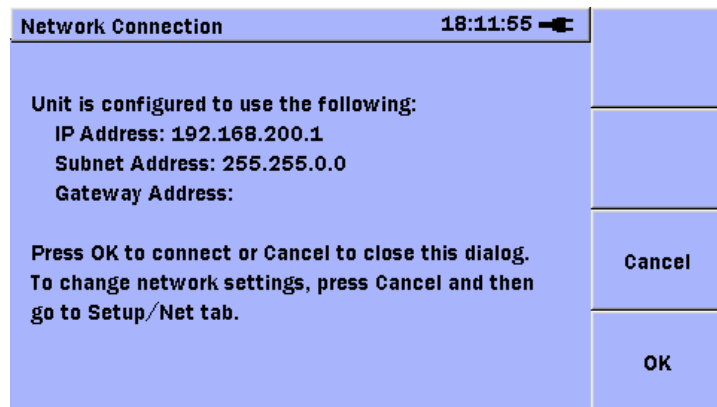

Figure B.1-7 Static Address Information
- Connect the USB end of the USB-Ethernet converter to the USB type A port of the controller (see Figure 1.5-1). The screen shown in Figure B.1-7 will be displayed.